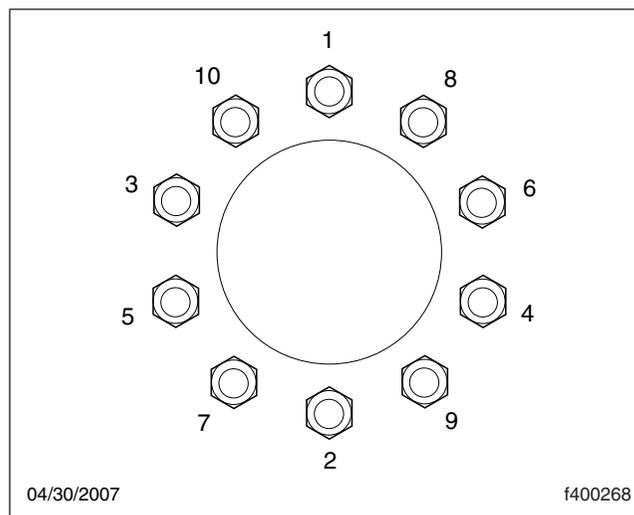

Fig. 25.4, Tightening Pattern, 10-Hole Wheels
- 4.3 Make sure all wheel nuts are tightened. If tightening is necessary, use the tightening pattern in Fig. 25.4 to initially tighten the flange nuts to 50 to 100 lbf-ft (68 to 136 N·m). Then tighten the flange nuts to 450 to 500 lbf-ft (610 to 678 N·m).